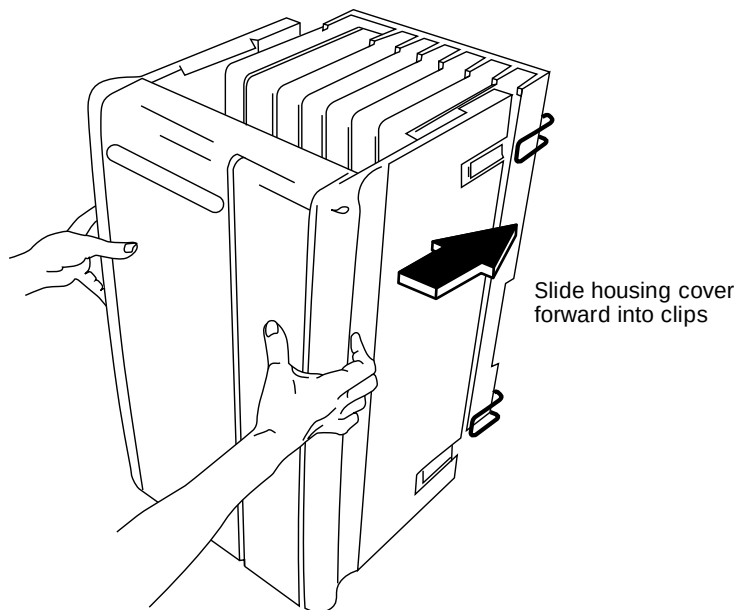

Figure 5-4. Installing the Control Unit Housing (Release 2.0 and Earlier)
- ▶ 2. Line up the wire clips attached to the carrier with the recesses on the outside of the side panels. See Figure 5-4.